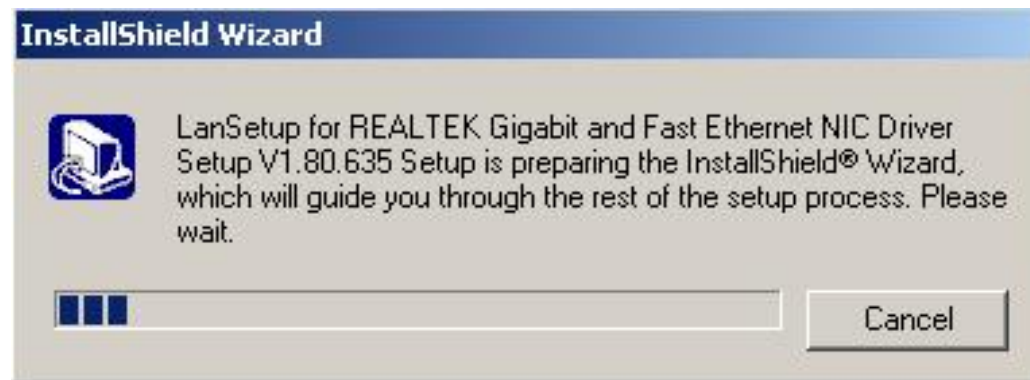

Figure 7-26: Preparing Setup Screen
Step 5: The **Install Shield Wizard** is prepared to guide the user through the rest of the process (**Figure 7-26**).